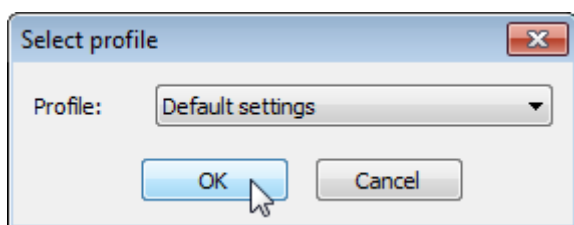

Figure 36: Loading a profile.
- Click **Load profile**. In the dialog (Figure 36), select one of the profiles.